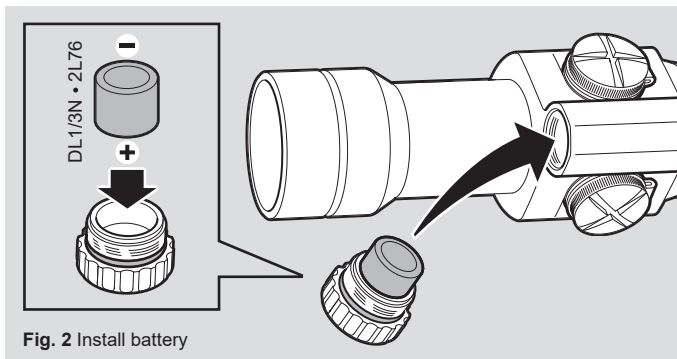

Fig. 2 Install battery
- a Remove battery cap (1).
- b Insert battery (2) with positive end (+) toward battery cap. See Fig 2.